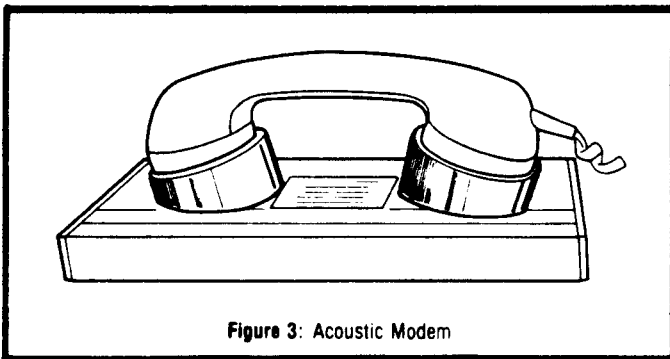

Figure 3: Acoustic Modem
•**Acoustic and Direct-connect:** In the "old days" the phone company wouldn't let us connect anything directly to their lines without paying dearly to lease their interface devices. Now, you can connect any "FCC approved" device yourself. When we couldn't tamper with the lines the only answer was "acoustic coupling." This meant physically sticking the telephone receiver into a pair of muffs built into the modem, where communication took place via the earpiece and mike (see Figure 3). This is now considered old-fashioned but it still has advantages. It's quick and easy, and it doesn't change your phone installation in any way. It works great if (a) you have a good quality handset, and (b) you aren't in a really noisy place, like the engine room in a boiler plant. If you plan on using a portable computer an acoustic modem is almost a necessity (such as, for use in a public phone booth.) On the other hand many of the new handsets are of a shape or size that do not permit them to fit into an acoustic modem. The "Star Trek" communicator type is one such example.
I haven't shown all the bypass capacitors specifically. You should scatter them around the circuit depending on your past experience(?) for deciding how many. Very conservative designers use a .1 uf ceramic disk per chip but I think that is a bit of overkill. I generally use one bypass cap for every 2 ICs but you can stretch this a bit further in the RAM chip area here since, being CMOS, they have a very low power drain and don't create heavy switching transients the way TTL does. See Figure 3 for a photo showing the board layout and location of bypass caps.